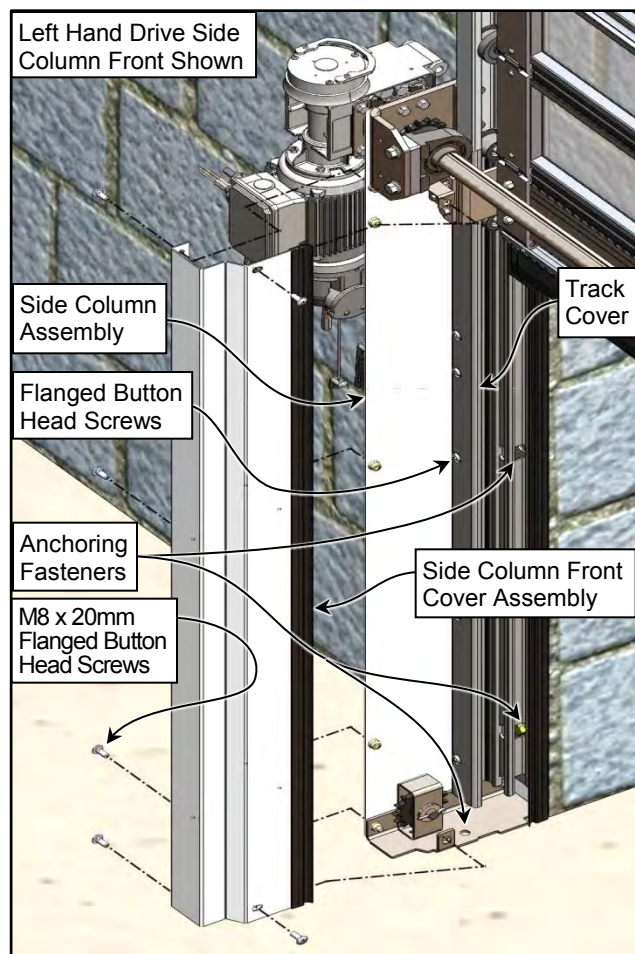

Figure 30
3. Gain access to the door's mounting anchors by removing the Side Column & Track Covers. To remove the Track Covers, see "Door Panel Inspection" section, steps 6 - 7 on page 11. (See Figure 30)